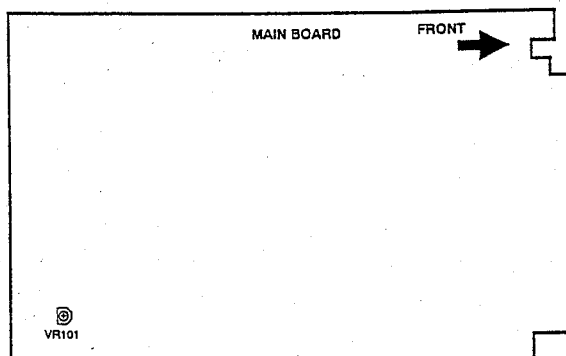

Figure 4-1 Location of on Main board
1. Input a cross hatch pattern in primary mode and adjust VR101 (see figure 4-1 for approximate location) to get the high voltage is in the range $25.5kV \pm 0.2$.